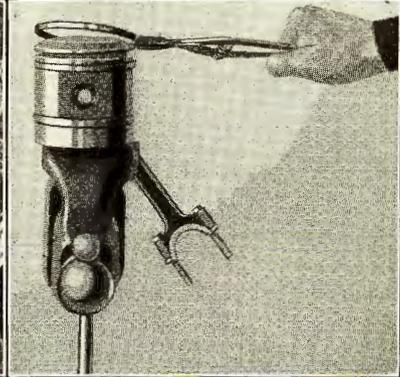

Fig. 239
- 402** Leaks in pistons can be found by pouring about 1" of gasoline into the interior of the piston, after piston rings have been removed with a ring extractor as shown in Fig. 239, and the oil wiped out of the grooves. If there is a leak, the gasoline will seep through.
- 425** When a ring is worn undersize, or does not seat all the way around, it allows oil and gas to pass, and should be replaced. The rings are removed with a ring extractor as shown in Fig. 239. Any carbon in the ring grooves in the piston should be removed and the ring grooves thoroughly cleaned.